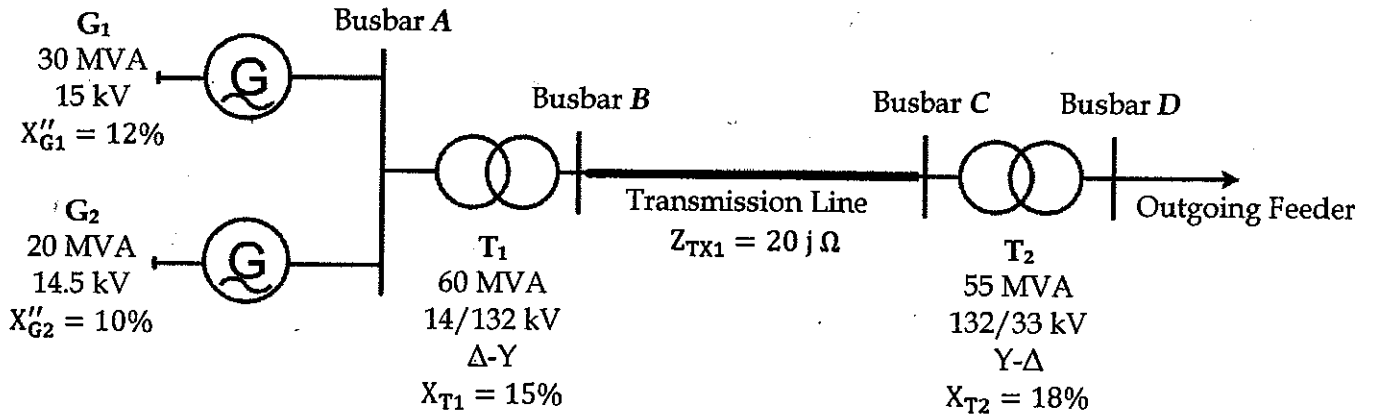

Figure Q1
- b) Single line diagram of a three-phase power system is shown in Figure Q1. The two generators (G_1 and G_2) rated 30 MVA, 15 kV and 20 MVA, 14.5 kV with sub-transient reactances of 0.12 pu and 0.10 pu respectively are connected to busbar A. The two transformers (T_1 and T_2) rated 60 MVA, 14/132 kV and 55 MVA, 132/33 kV have leakage reactances of 0.15 pu and 0.18 pu respectively. The transmission line between busbar B and busbar C has a series reactance of 20 Ω . The system is under no-load and voltage at busbar A is maintained at 14.85 kV.